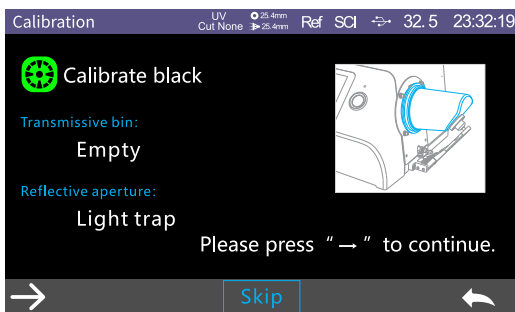

Figure 5 Reflective Black Calibration Interface
- Click  to enter Reflective Black Calibration interface as shown in Figure 5.